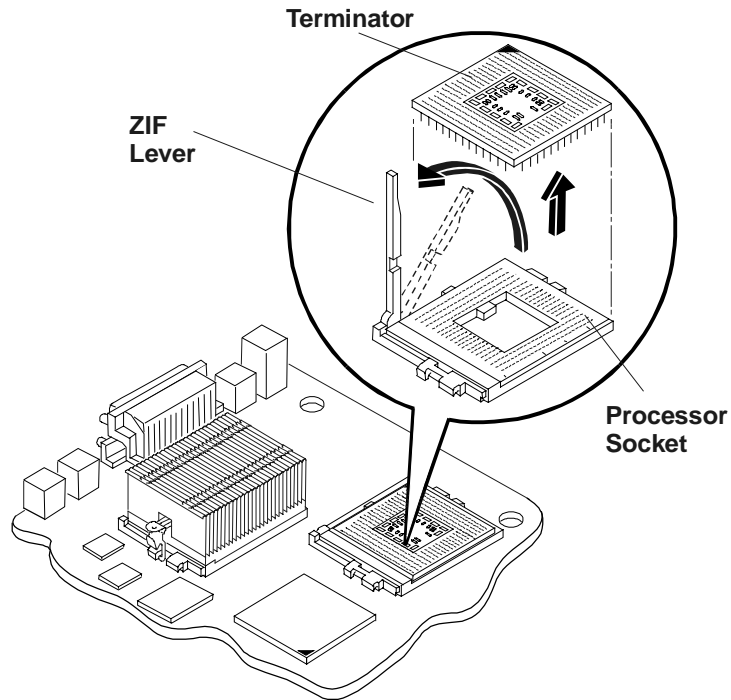

Figure 6-3. Removing the Terminator
8. Open the ZIF (Zero Insertion Force) lever to allow removal of the terminator installed in the processor socket. See Figure 6-3.
7. If you are not replacing the processor with a new or replacement processor, you must install the terminator into the empty processor socket. See Figure 6-3.